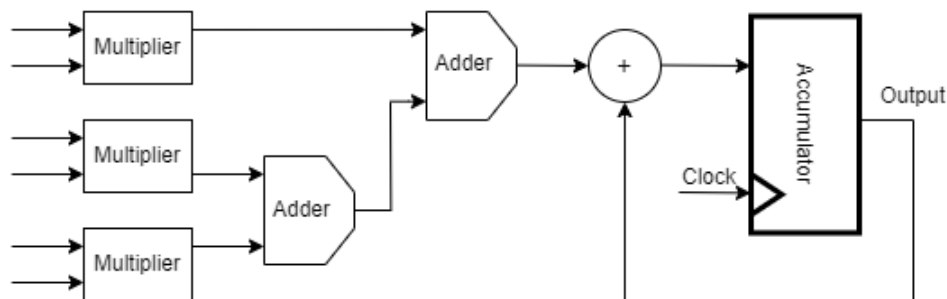

Figure 4: MAC Unit with 3 Parallel Multiplier
1. Create a new module called **MAC**. This module should have 1-bit inputs **clk**, **reset**; 24-bit inputs **data**, **weight** and 20-bit output **result**. **MAC** unit will perform convolution operations by computing products of data and weights and adds these products to an accumulator. The structure of the MAC unit is shown in **Figure 4**.